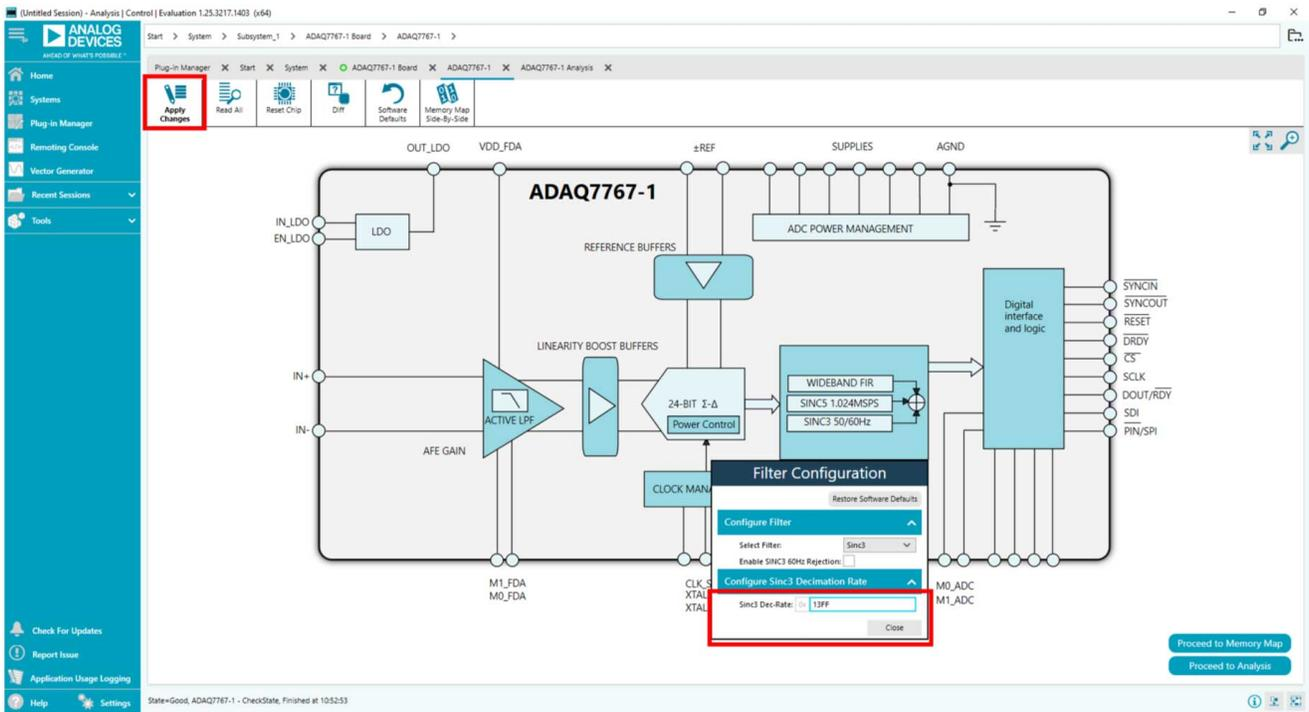

Figure 5. Set the Sinc3 Filter Decimation Ratio
4. To configure the Sinc3 Dec-Rate, type 13FF in the text box near the lower right corner as shown in Figure 5, which is also reflected in the SINC3\_DEC\_RATE\_LSB and SINC3\_DEC\_RATE\_MSB registers located within the memory map of the ACE software. Then, click Apply Changes for this to take effect.